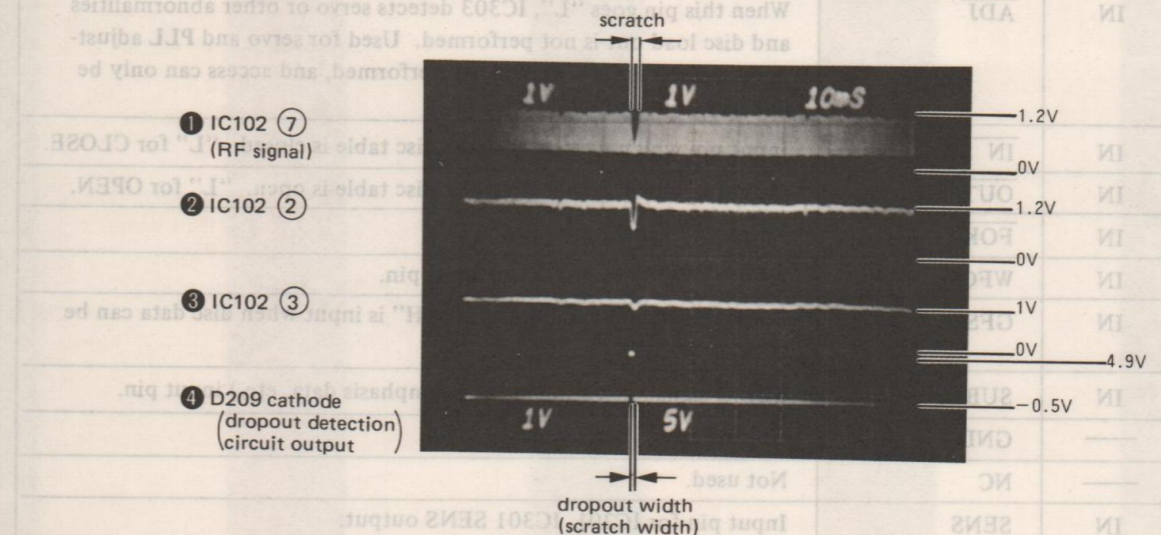

Fig. 2 Waveform when Dropout is Detected
3. Confirm that a waveform as shown in Fig. 2 ④ is on main board D209 cathode side. Operation is normal if this pulse appears.